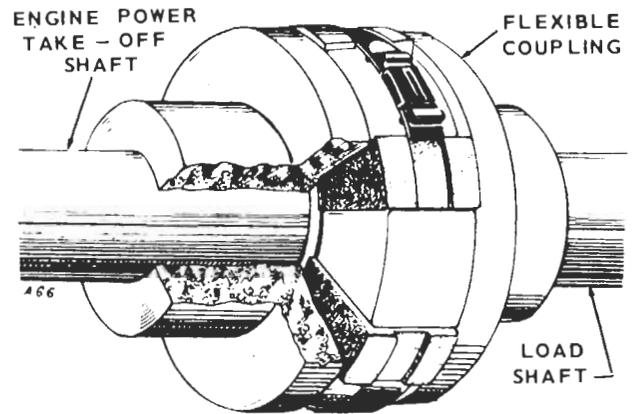

FIGURE 5. FLEXIBLE COUPLING
1. Engine priming before starting is shown in Figure 5 (manual start only).
Flexible Coupling. If a flexible coupling engine-to-load drive is used, the load shaft must be in line and centered with the engine shaft (Figure 5).